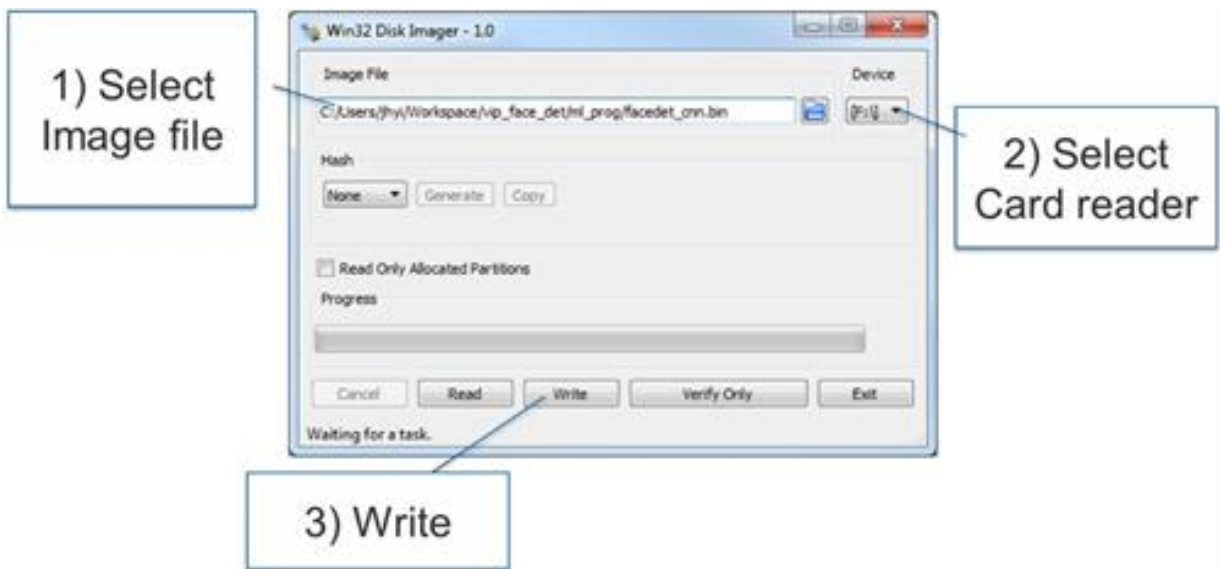

Figure 4.9 Win32 Disk Imager
3. In Win32 Disk Imager, select the **Image File(vip_human_cnt_sensAI20.bin)** and **Card Reader** as shown in Figure 4.9